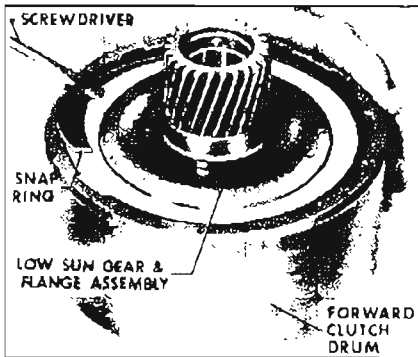

Figure 5-208
1. Remove low sun gear and flange assembly retaining snap ring. See Figure 5-208.